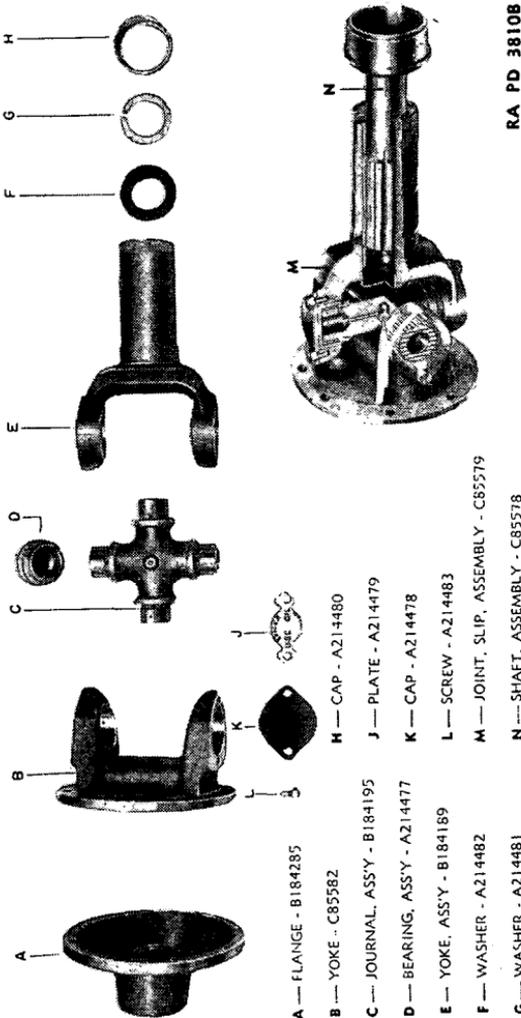

FIGURE 74.—Rear axle propeller shaft, exploded.
(4) Disassemble opposite universal joint. Follow steps (1) through (3) above.
(5) Remove slip joint. Unscrew dust cap (A160305) and pull slip joint (C85575) from shaft splines.
(6) Remove dust cap—screw driver. Lift cork washer (A160310) and split steel washer (A160309) out of cap, and slip cap over shaft splines (fig. 74).
*b. Rear axle (jackshaft) propeller shaft (fig. 74).*—Tools: ½-inch socket wrench, brass drift, hammer, screw driver.
(1) Remove bearing caps—screw driver, ½-inch socket wrench. Bend down locking tabs on lock plate (A214479) with a screw driver. Remove two cap screws (A214483) holding each bearing cap (A214478) and lock plate, and remove plates and caps.
(2) Disassemble remainder of shaft. Follow steps (2) through (6) in *a* above.